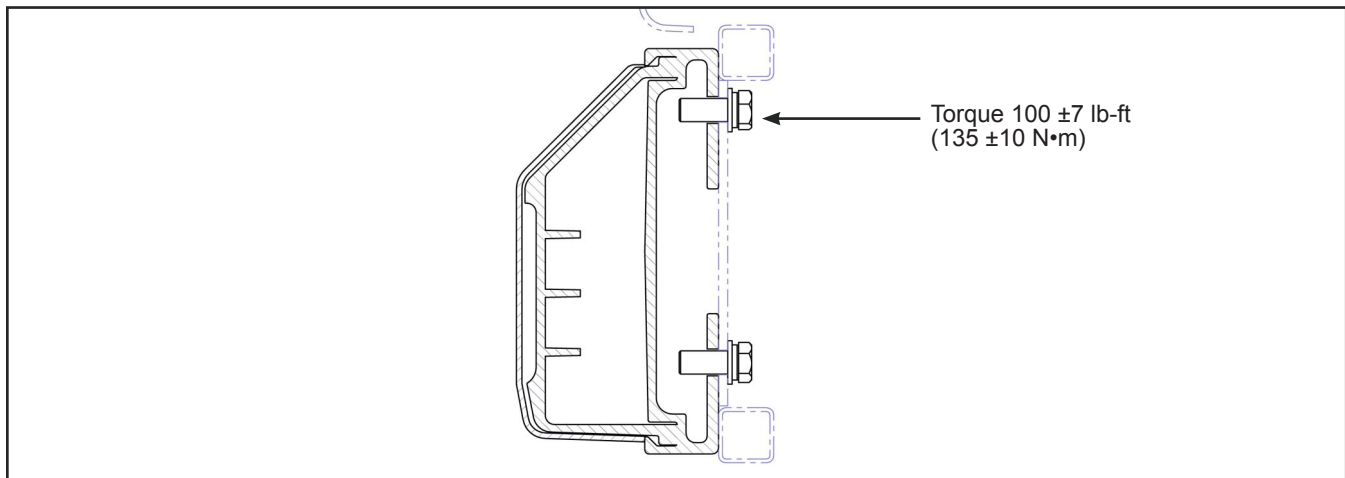

Figure 12 - Rear Bumper Torque
- 1.38. Install the rear bumper with the retained hardware and tighten to the torque specified in Figure 12.❖